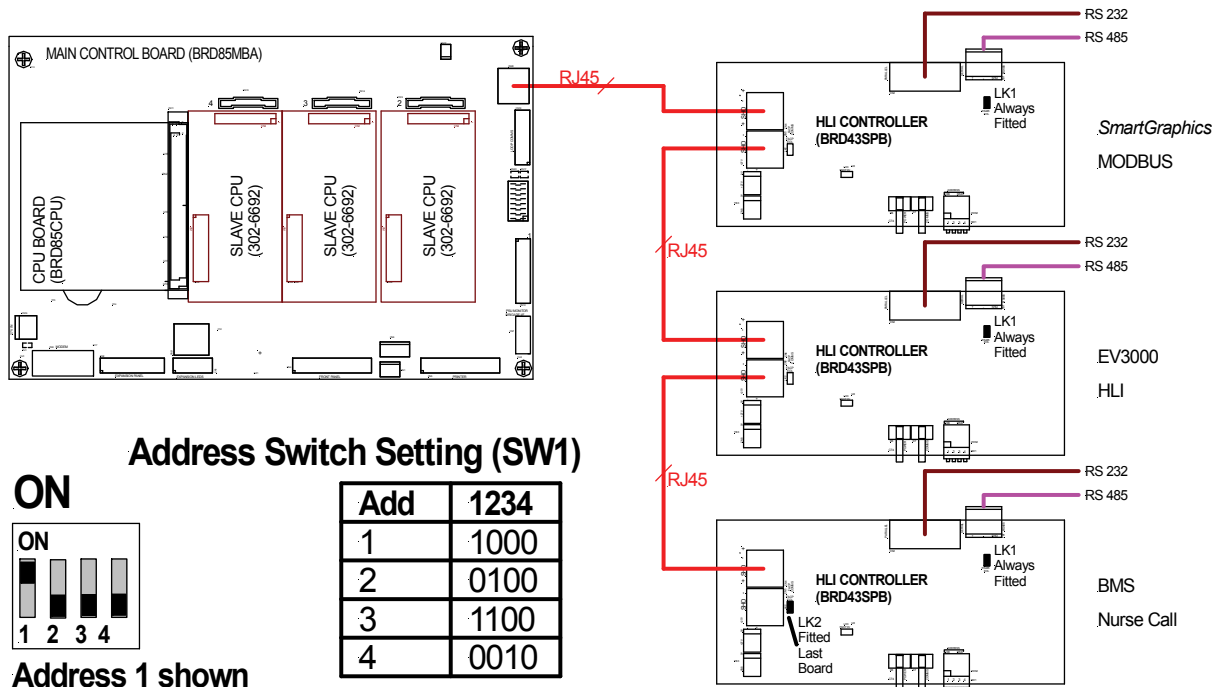

Figure 2: High Level Interface Controller Typical wiring layout and Address Setting
4. Bring the field cabling into the FACP through a suitable knockout and terminate to the required Connectors. See Figure 2
5. Set Address SW (Addresses 1 to 4 can be used). See Figure 2 ensuring it is the same as the config
- SW1 Address set SW as shown in Figure 2